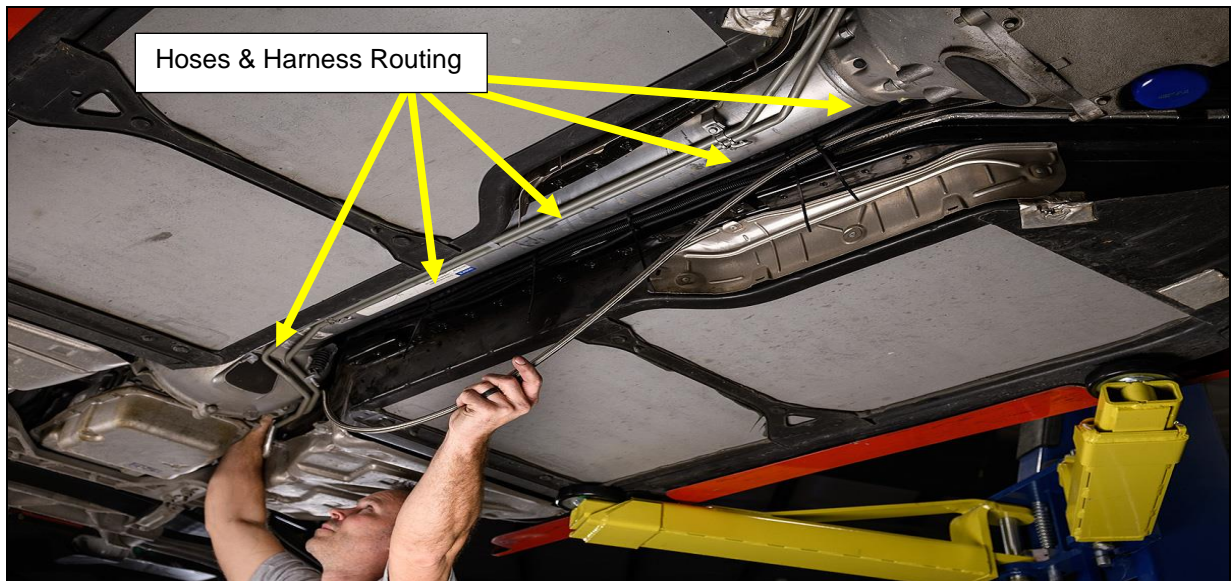

Figure 36
2. Route the oil return hoses, oil pump harness, wastegate boost line, PCV vent line (if being used for CARB certified applications), and the oil supply line. Route hoses and lines down the torque tube tunnel along existing hard lines clamped to the body. Use the supplied cable ties to secure the lines as you go (**Figure 36**).